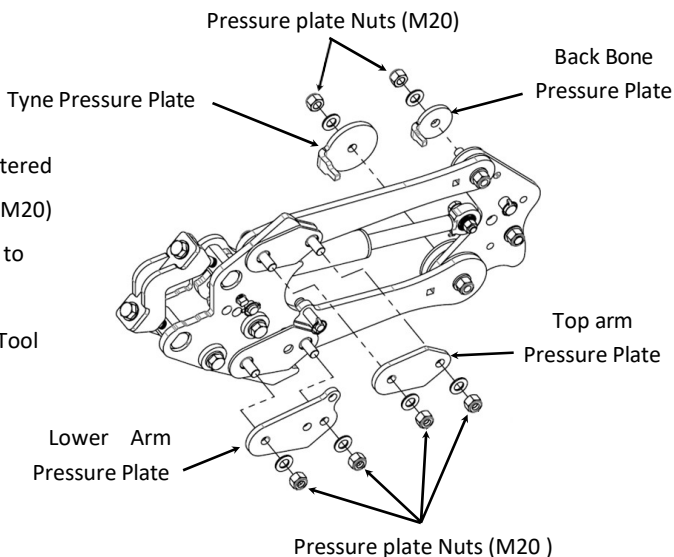
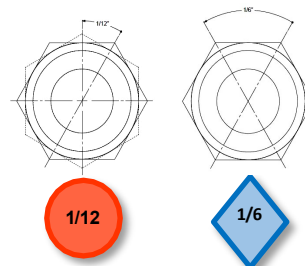

Fig. 1.01 (Pressure Plate & Nuts)
Fig. 1.03 (M20 Nut Castellations indicator)
The Territory Unit Pressure Plates are the only part that needs to be altered to achieve the correct operation of the Units. The Pressure Plate Nuts (M20) are the only part that are adjusted to achieve the correct applied force to the Pressure Plates. (See Figure 1.01) The Torque Indicator Tool shown Below will assist in achieving accurate settings. If the Torque Indicator Tool is unavailable (see Figure 1.03)
3. **Loosen Nuts 1 and 2, (1/12 of a turn)**  (see Figure 1.03) Or use Tool 970000410
4. **Loosen Nuts 3 and 4, (1/6 of a turn)**  (see Figure 1.03) Or use Tool 970000410